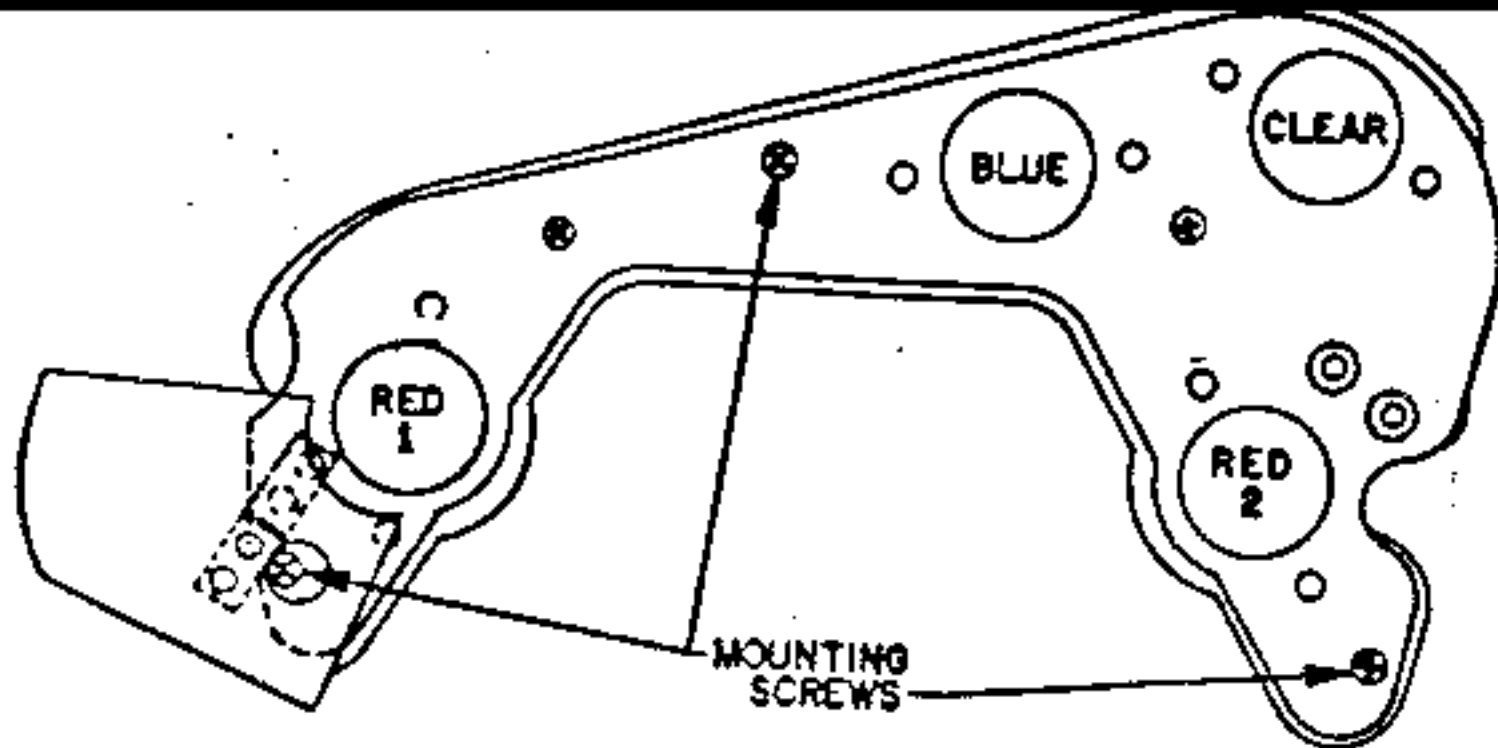
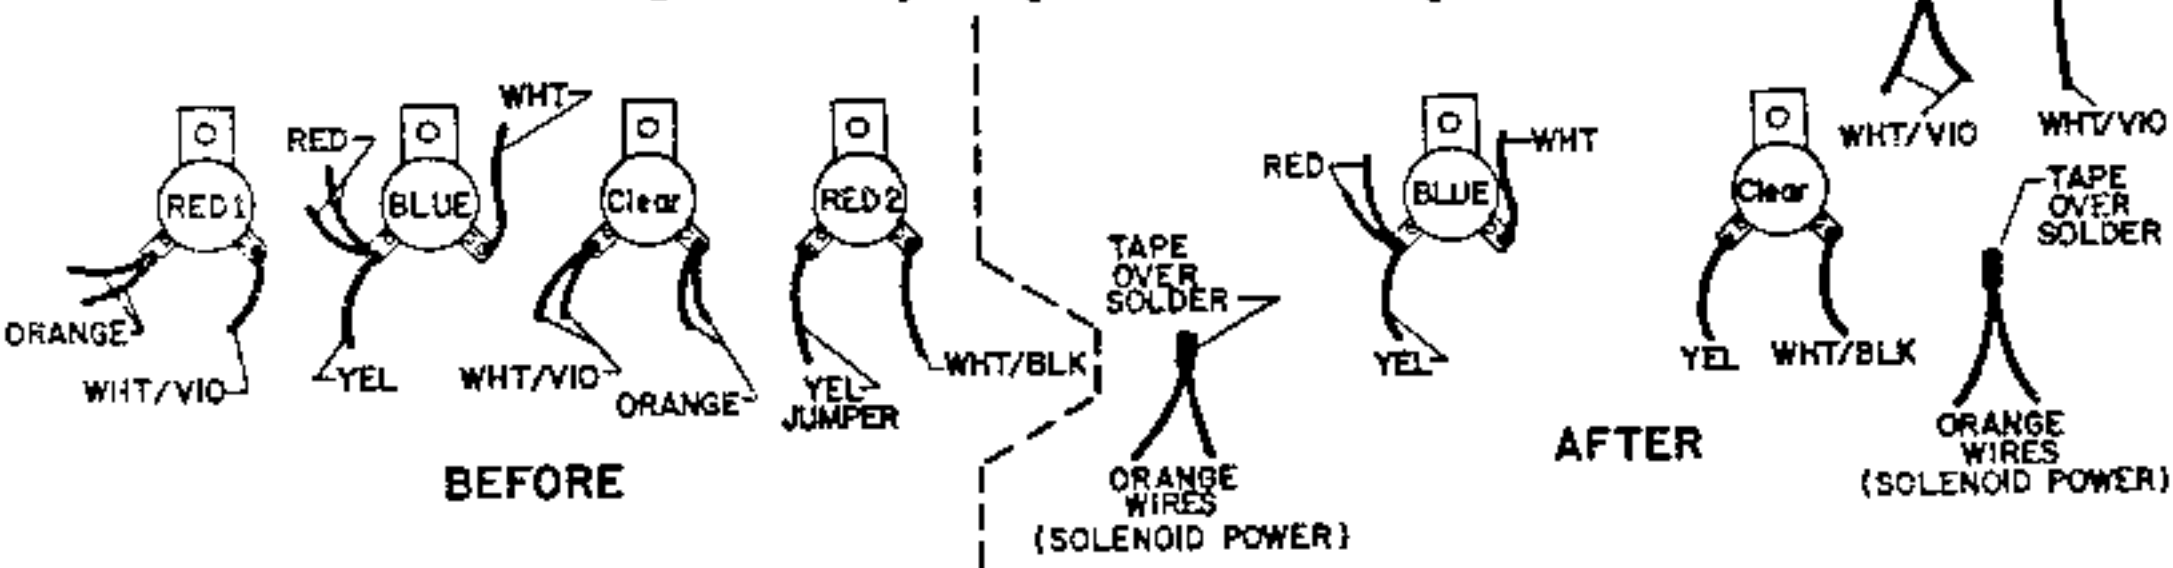

Figure 1. Top Loop Plastic Assembly
Figure 2. Flasher Lamp Connection Changes
- a Remove the three Phillips screws (left, center, and right, shown in Figure 1) that mount the top loop plastic assembly. Remove the top loop plastic assembly from the playfield.
- b Unsolder the wires from the bulb socket (CLEAR, Figure 1) near the "C" in CAT. Push the four wires through the playfield. Resolder the two orange wires for a proper electrical connection. Tape ends of soldered orange wires with electrical tape. Separately tape the ends of the white/violet wires.
- c Unsolder the wires from the bulb socket (RED 2, Figure 1) near the "A" in CAT. Solder the yellow jumper wire to the top tab of "C" bulb socket; solder the white/black wire to the bottom tab. Using a 1/4" socket wrench, remove the wood screw that mounts this "A" bulb bracket to the playfield. **Remove the bulb, socket, and bracket.**
- d Unsolder the wires from the bulb socket (RED 1, Figure 1) near the "O" in TOM. Push the three wires through the playfield. Resolder the two orange wires, and tape this soldered connection. Separately tape each white/violet wire with electrical tape. Using a 1/4" socket wrench, remove wood screw that mounts the "O" bulb bracket to the playfield. **Remove the bulb, socket, and bracket.** Check that the wiring connections now match the "AFTER" view in Figure 2.